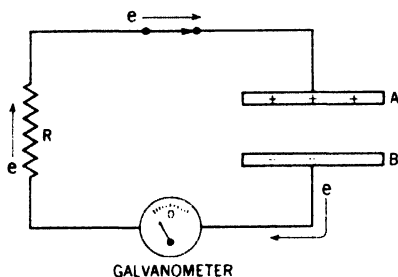

Fig. 33-4. Capacitor discharging through resistor ( $R$ ).
**Discharging the Capacitor.** Since we have no closed circuit, no current flows even though the capacitor is still charged. If we now complete our circuit by connecting in a resistor in the place of the battery as in Figure 33-4, electrons stream from plate B where